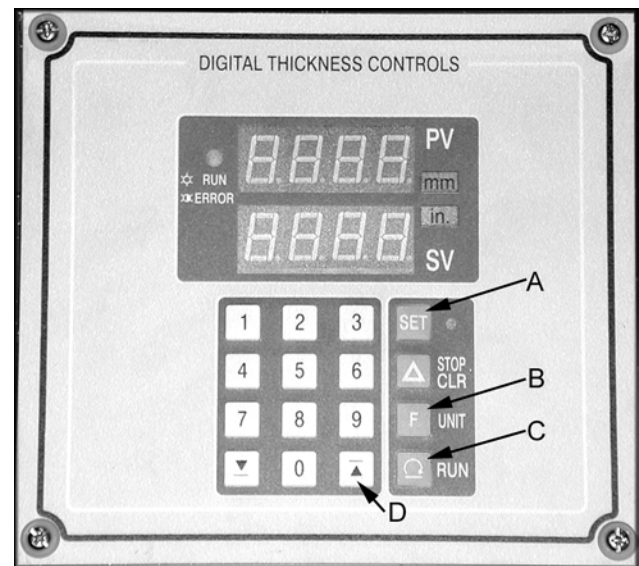
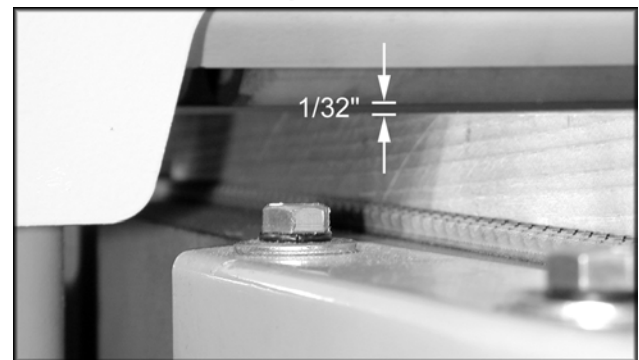

Figure 16
Figure 17
1. Press "SET" button (A, Figure 16) once, and two changes will occur. First the present value will change to "uuuu". Second the "SET" button indicator light will illuminate.
2. Now press "UNIT" button (B, Figure 16) once. The present value should now read inches, and the "Inches" indicator light should be illuminated.
2. Press the "RUN" button (C, Figure 16). This will cause the table to move up, or down until the set value is achieved.
2. Use the "UP" button (D, Figure 16) to raise the table so that the pressure rollers are about 1/32" above the calibrating board, see Figure 17.